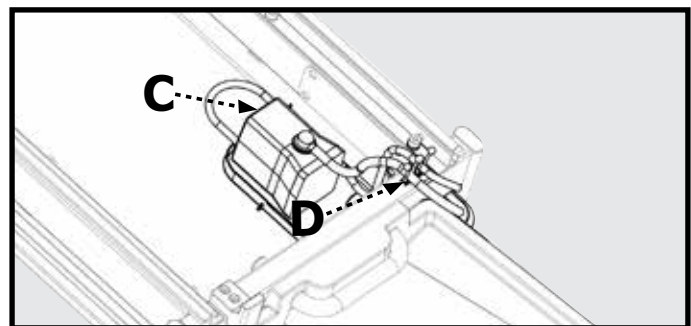

Figure 17
2. Attach the free end of the water hose into the outlet nipple (C, Fig. 17) on the submersible pump (14).
4. Secure the slack in the water hose and pump's power cord to the tool using the provided snap ties (D, Fig. 17).